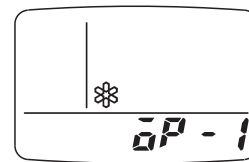

Fig. 12
- d) ✻ appears with “oP-1” blinking in the remote controller clock display area. (Fig. 12)